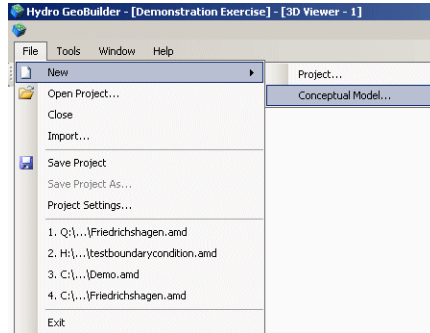

Figure 28 Create a new conceptual model
-  **File > New > Conceptual Model...**, from the main menu (Figure 28).